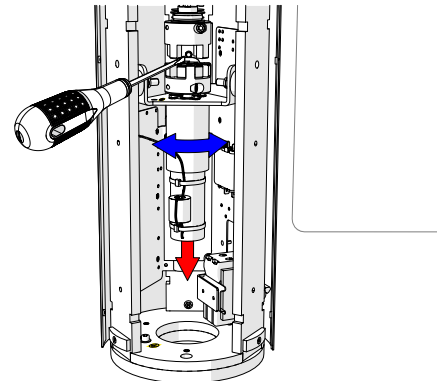

Fig. 42 - Coupling replacement (Motor)
7. Pull the motor firmly downwards until there is sufficient space between the components to remove each component from the coupling (Fig. 42);